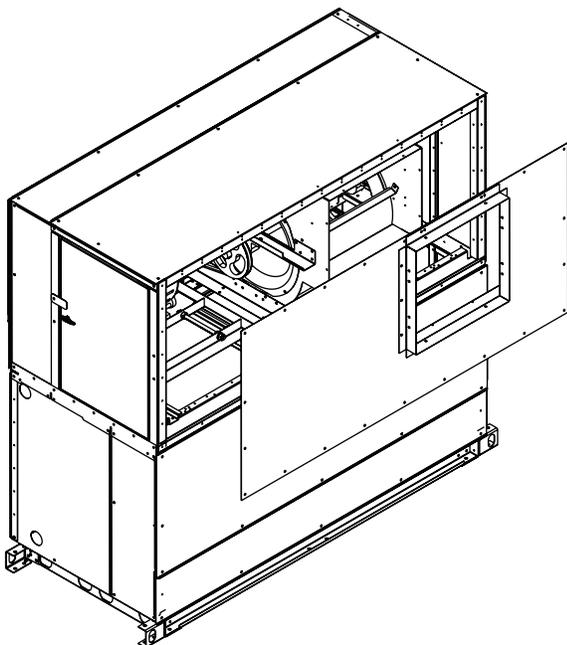

Fig. 90 – Remove Fan Discharge Panel
1. Disconnect the fan discharge by removing the screws from the discharge of the fan housing. Remove the fan discharge panel (Fig. 90).